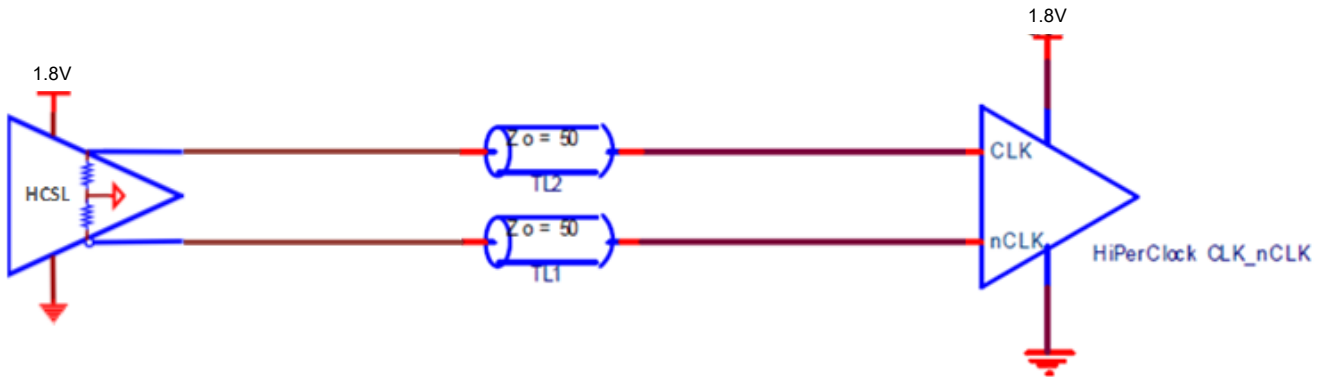

Figure 1. HCSL Internal Termination—Simple Topology
- Figure 1. HCSL Internal Termination–Simple Topology3
The FC3 devices support transmitter internal termination, as shown in Figure 1. Integrating the terminations inside the transmitter simplifies the BOM and the board design.